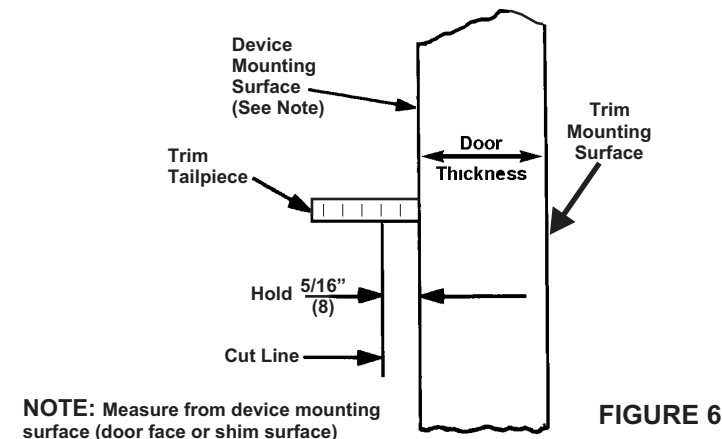

FIGURE 6
**Note: The standard tailpiece can be used on door thicknesses from 1-3/4 to 2". If a longer tailpiece is needed it must be special ordered. If this special tailpiece was ordered with this kit, it must be sized for proper door thickness. Failure to do so will result in damage to the Exit Device. See figure 6 for proper instructions and dimensions (5/16").**